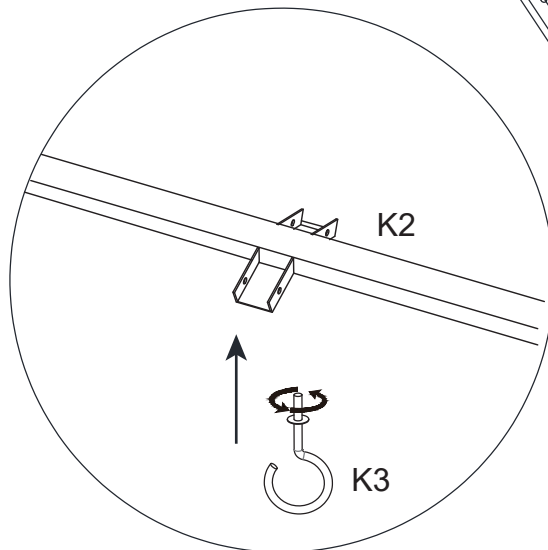

Figure 10-2
10.2: Attach Roof Vent Hook (K3) to Roof Vent Center Support (K2). See Figure 10-2.